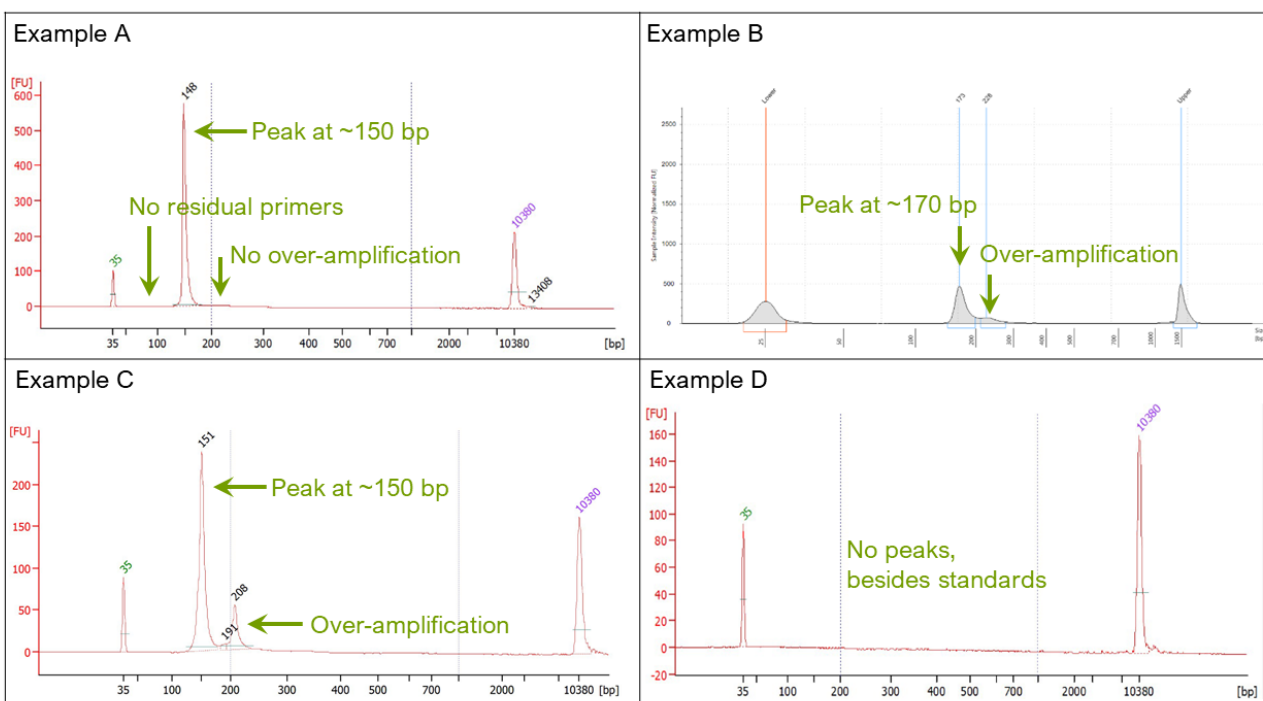

Figure 9: Library QC examples
3. Check for the expected size of the amplicons and absence of primers or high molecular weight over-amplification products (Figure 9):